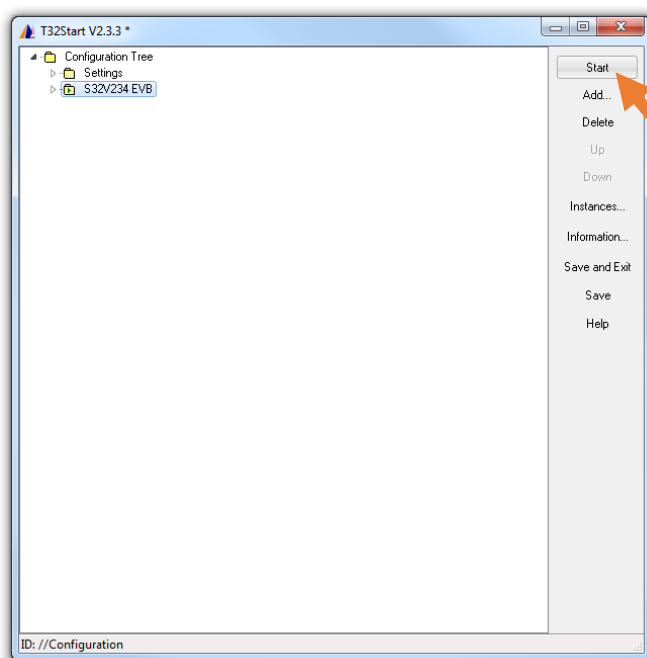

Figure 7 Starting the configuration
9. On opened T32Start window, select S32V234 EVB setting and press "Start" (Figure 7)